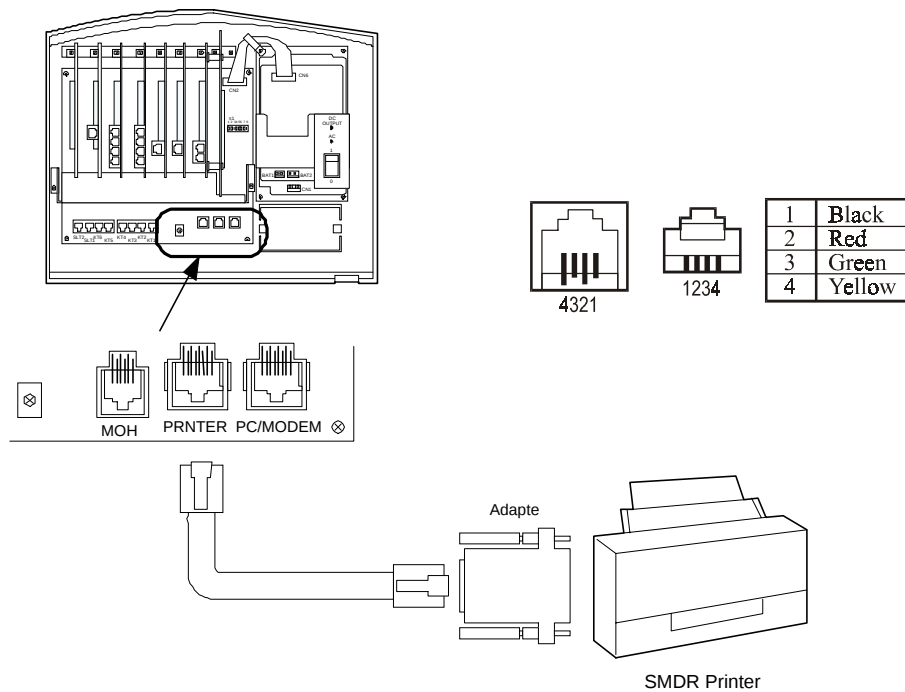

FIGURE 50. STATION MESSAGE DETAIL RECORDER(SMDR)CONNECTION)
1. Plug the attached serial cable into the connector labeld PRINTER on the motherboard (VS-MAIN) card as illustrated Figure 50.